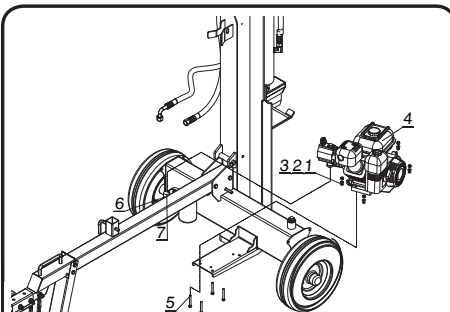

Figure 6
2. Attach the clear oil pipe (#7) to the bottom of the gear pump and secure with clamp (#6). (See fig. 6)